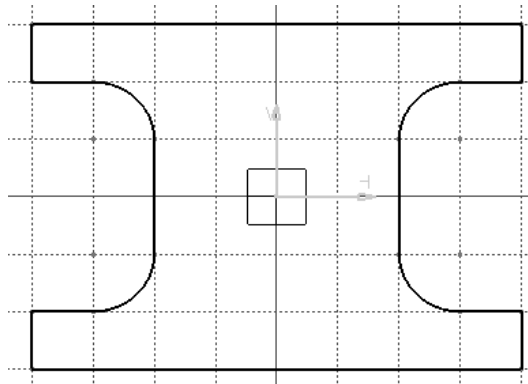

Figure 2-47 The sketch after drawing the outer loop and hiding the constraints
23. Move the cursor vertically downward and specify the endpoint of the line when it snaps to the start point of the outer loop. The sketch after drawing the outer loop and hiding the constraints is shown in Figure 2-47.